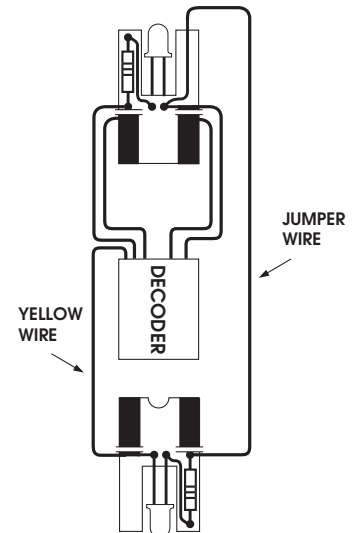

Fig. 4
- Solder YELLOW wire to rear board (Fig. 4).
- Solder a jumper wire (not supplied) from cathode side of LED on front light board to cathode side of LED on rear light board as shown in Fig. 4.